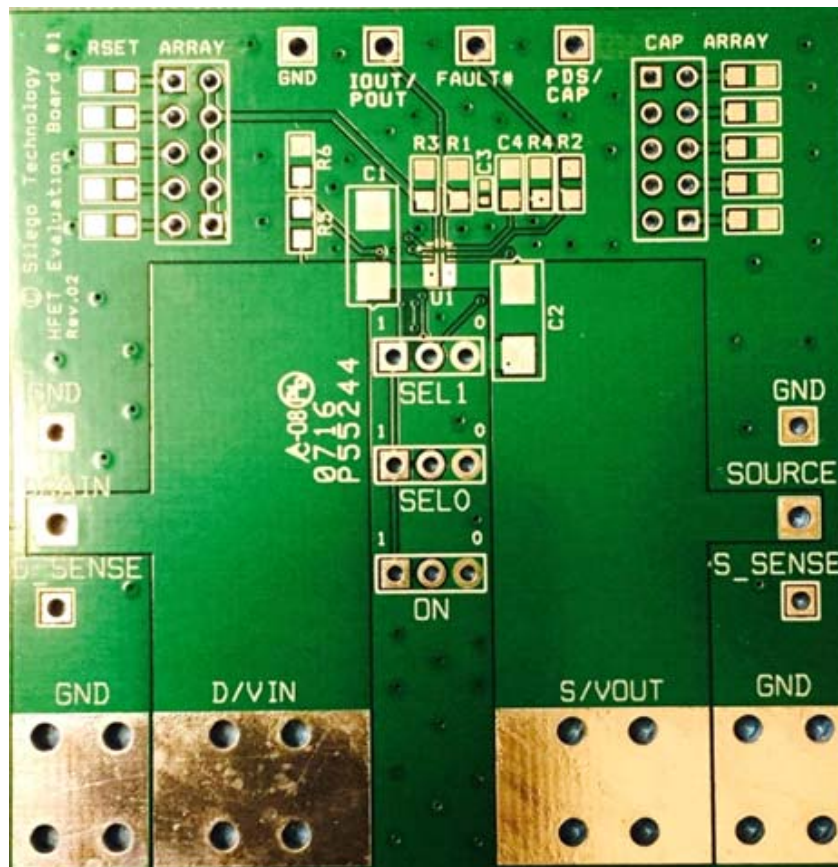

Figure 14. SLG59H1013V Evaluation Board
1. Since the VIN and VOUT pins dissipate most of the heat generated during high-load current operation, it is highly recommended to make power traces as short, direct, and wide as possible. A good practice is to make power traces with absolute minimum widths of 15 mils (0.381 mm) per Ampere. A representative layout, shown in Figure 14, illustrates proper techniques for heat to transfer as efficiently as possible out of the device;
A HFET1 Evaluation Board for SLG59H1013V is designed according to the statements above and is illustrated on Figure 14. Please note that evaluation board has D_Sense and S_Sense pads. They cannot carry high currents and dedicated only for RDS_{ON} evaluation.